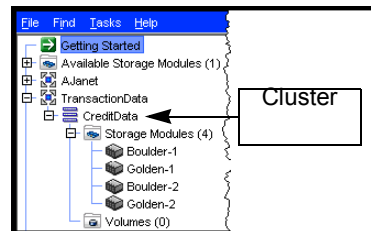

Figure 139. Viewing a Cluster and the Navigation Window
The cluster is created and displayed inside the management group, shown in Figure 139.
- Select the cluster to open the Clusters tab window, also shown in Figure 139.